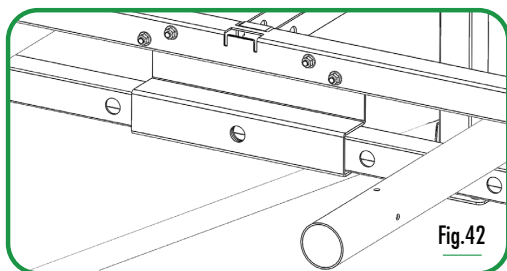

Fig.42
- 9.3 Ensure that ANTI-TIPPING (10) entangles properly the UPPER LEG CROSSBAR (7) without creating teleconferences as shown in Fig. 42. The correct placement of the ANTI-TIPPING (10) will create the space of action for ROLLING TUBE (8). In this step is very important to check the level of each leg and overall leveling.